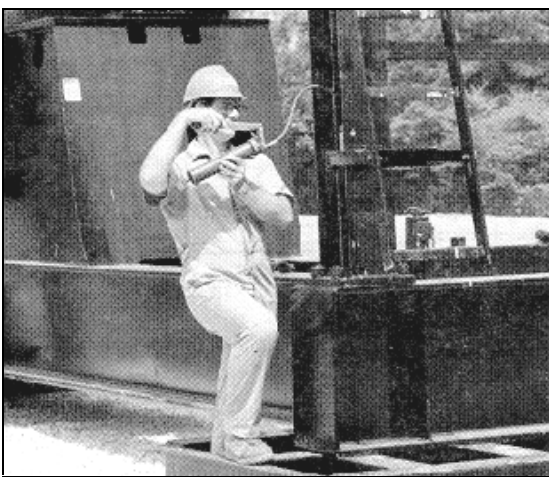

Figure 3. Lubricating the saddle and tail bearings.
3. Lubricate worn saddle, tail, and pitman arm bearings (Figure 3).